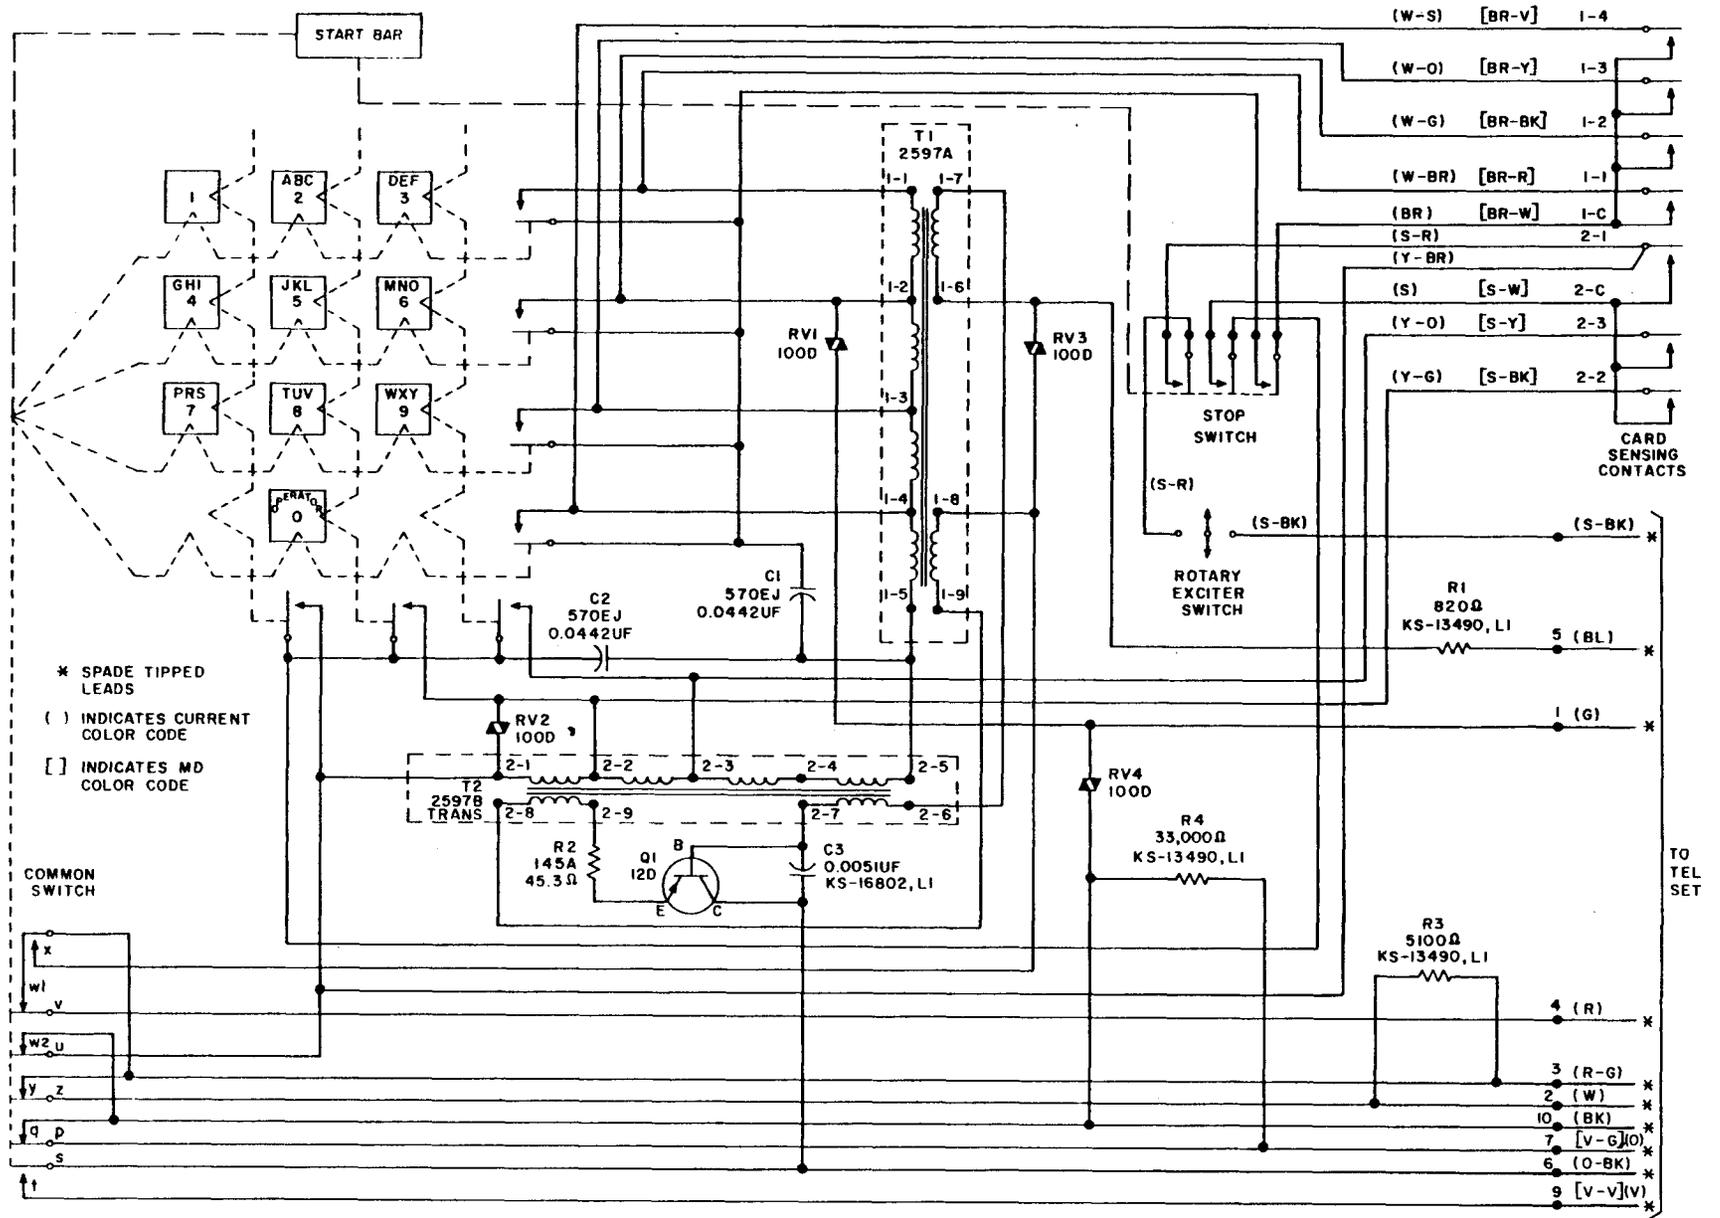

Fig. 8 — 26D Dial, Connections
- Fig. 8 — 26D Dial, Connections